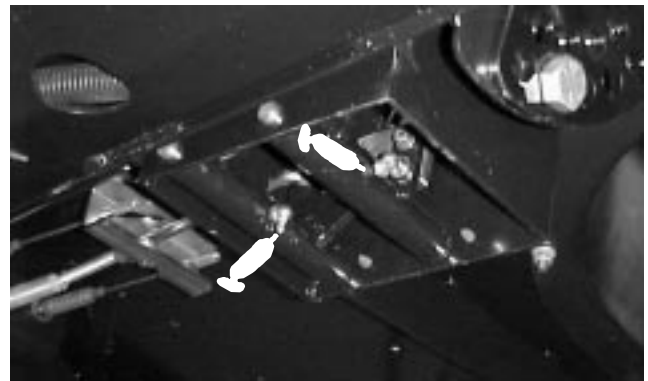

Figure 21
The throttle and brake pedal pivots (2) (Fig. 21) are not greased at the factory and should only be greased when and if the pedals begin to stick.